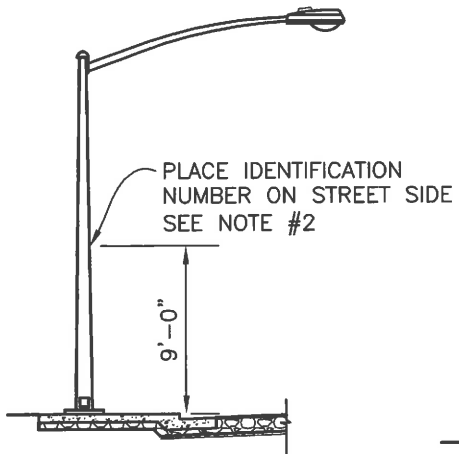
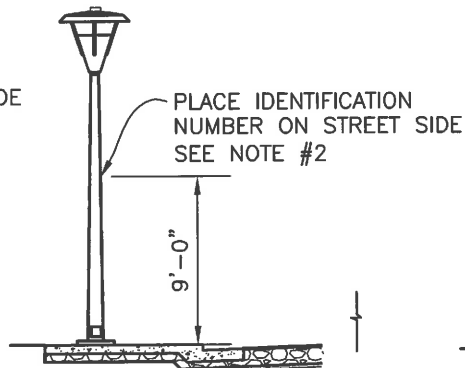
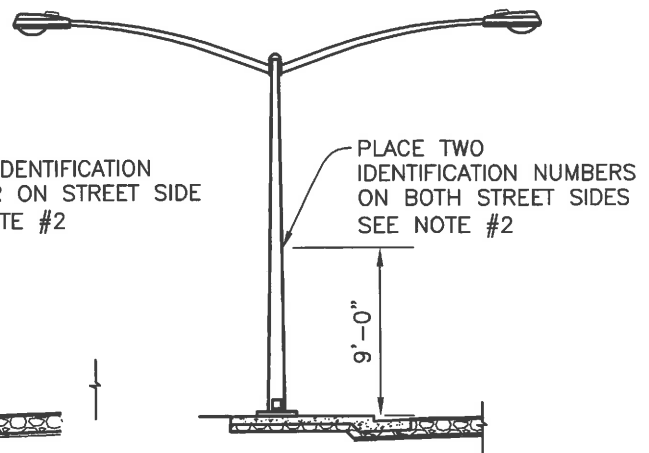

FIGURE 1
FIGURE 2
FIGURE 3
1. FIGURE 1, FIGURE 2 AND FIGURE 3 ARE METAL OR CONCRETE POLES OR POSTS.